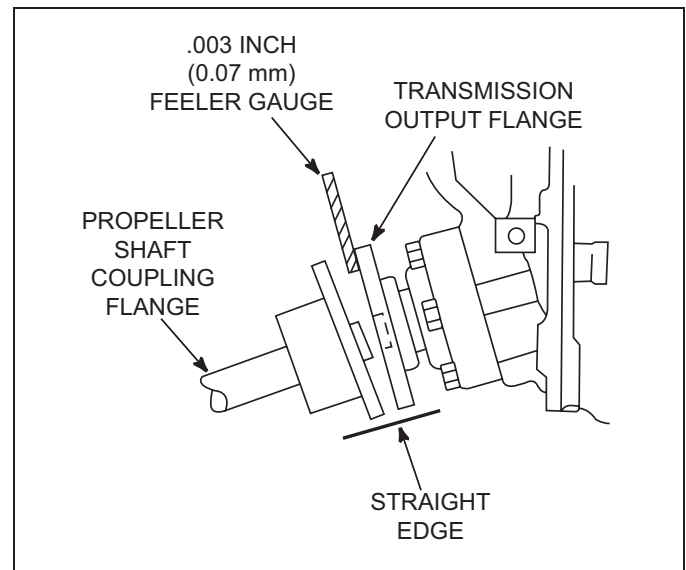
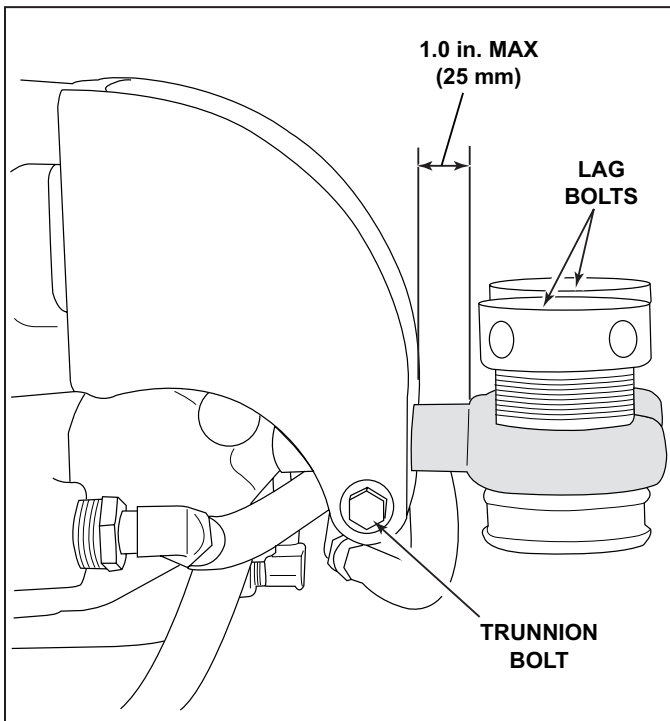

Figure 10-23 Angular Alignment
Figure 10-26 Engine Extension
3. Check that the coupling center lines align by butting the propeller shaft coupling against the transmission coupling (Figure 10-23). The shoulder on the propeller shaft coupling face should engage the recess on the transmission coupling face, with no resistance.
- **LEFT or RIGHT OFFSET ADJUSTMENT:** Loosen the trunnion clamping bolt and the nut on all four mounting brackets. Move the engine to the left or right, as necessary, to obtain the proper alignment. (Figure 10-26) After adjustment is complete, tighten all trunnion bolts.
5. Check for angular misalignment (Figure 10-23). Hold coupling faces tightly together, by hand, and check for a gap between the coupling faces, with a 0.003 in. (0.07 mm) feeler gauge, at 90-degree intervals (Figure 10-26).
IMPORTANT: Angular misalignment conditions may require adjustment of one front mount, both front mounts, trunnions, or any combination. Figure 10-26, Angular Alignment Check, and the following table will assist in the alignment process.
- **LEFT or RIGHT ANGULAR ADJUSTMENT:** Loosen the trunnion clamping bolt and the nut on all four mounting brackets. Move the engine to the left or right, as necessary, to obtain the proper alignment. (Figure 10-26) After adjustment is complete, tighten all trunnion bolts.